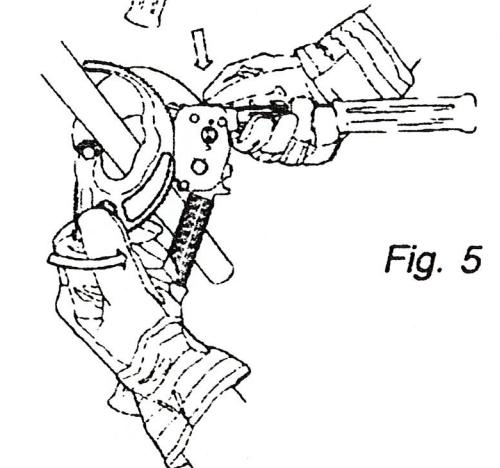

Fig. 5
3. Keep pressing retaining pawl down and turn pivoted blade until the cutting edge rests against the cable (fig. 5).